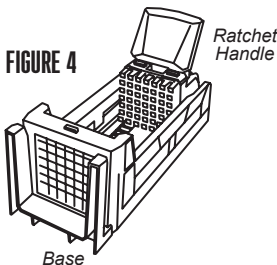

FIGURE 4
4. Place the Ratchet Handle/Pusher assembly onto the end of the Base (**FIGURE 4**).